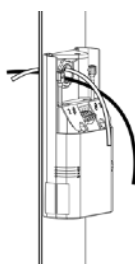

Fig 3
3. Route wires through knockout and into the mounting bracket. **Fig 3.**